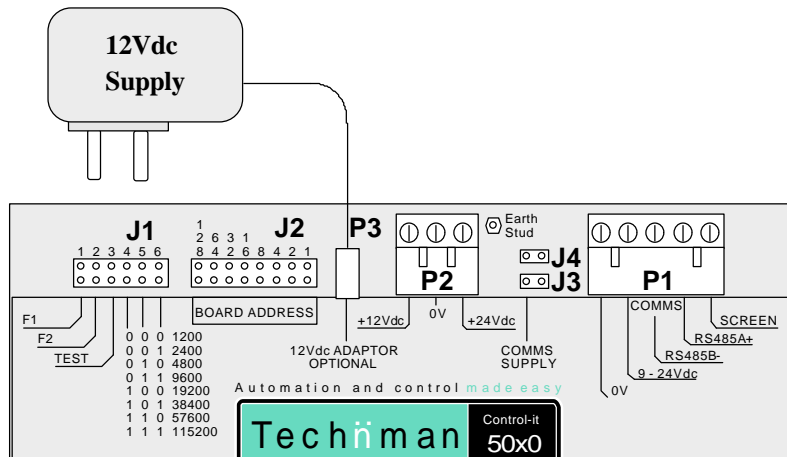

Figure 14 - 12Vdc power supply using the alternative power adapter.
- Figure 14 shows the alternative 12Vdc connection using a power adapter.